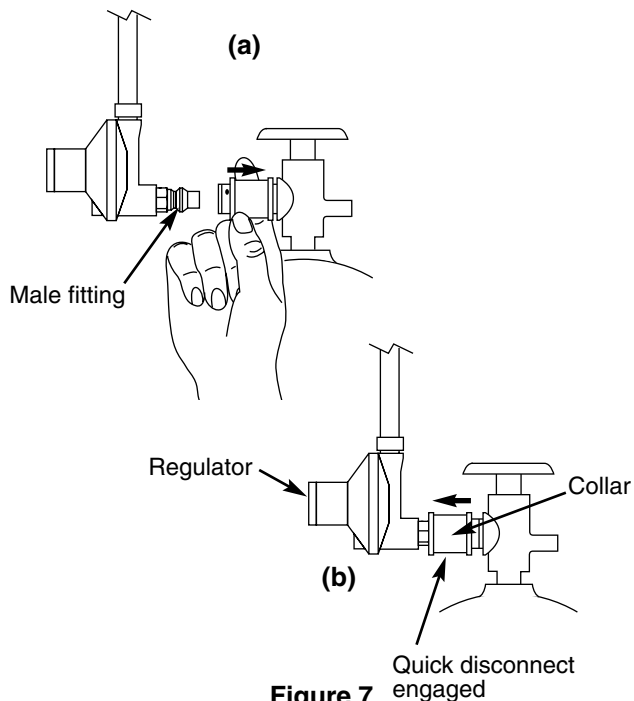

Figure 7
- c) Connect the hose to the tank. Slide back the collar of the quick disconnect on the tank valve. Figure 7 (a). Push the male fitting of the regulator into the quick disconnect, and maintain pressure. Slide the collar closed. Figure 7 (b). If it does not engage or lock, repeat procedure. Gas will not flow unless the quick disconnect is properly engaged.